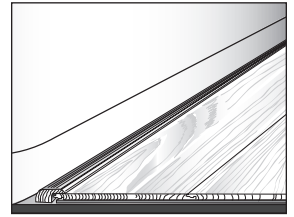

Figure 14
- Molding may be used along a straight tub or shower base (Fig. 14). The expansion zone should be filled with 100% silicone caulk and the molding seated in the caulk while it is still wet. The joint between the molding and the tub or shower base should also be caulked.